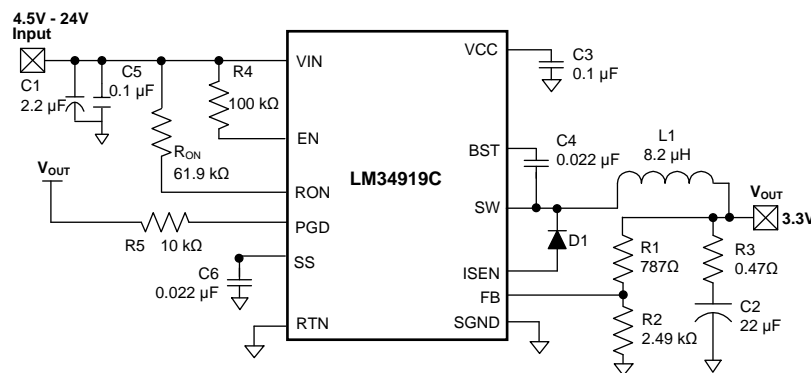
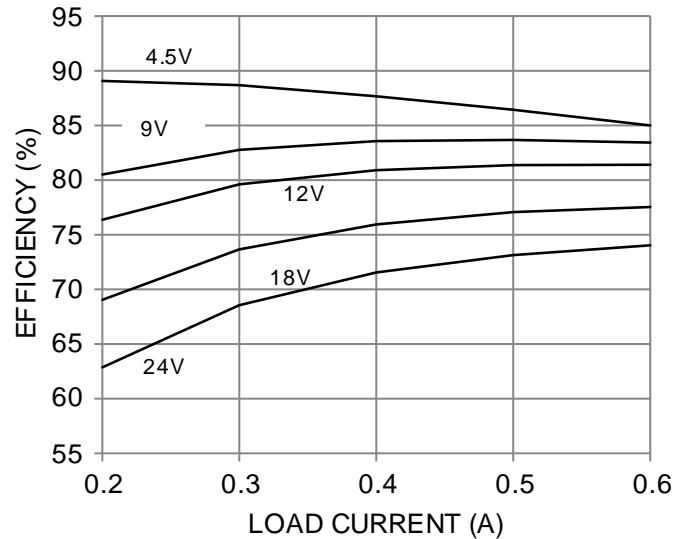
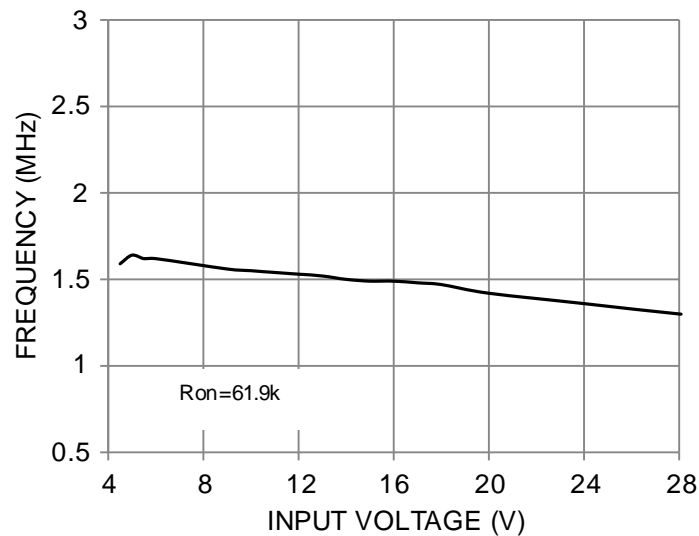
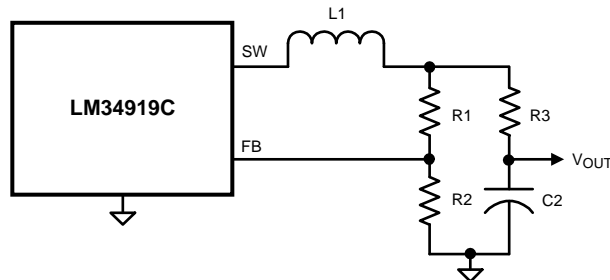

Figure 9. Example Circuit
Figure 10. Efficiency (1.5 MHz, $V_{OUT} = 3.3\text{ V}$)
Figure 11. Frequency vs. V_{IN} ($V_{OUT} = 3.3\text{ V}$)
Figure 14. Alternate Minimum Output Ripple Configuration
The final circuit is shown in Figure 9, and its performance is shown in Figure 10 and Figure 11.
c) Alternate minimum ripple configuration: The circuit in Figure 14 is the same as that in Figure 9, except the output voltage is taken from the junction of R3 and C2. The ripple at V_{OUT} is determined by the inductor ripple current and C2's characteristics. R3 slightly degrades the load regulation because the feedback resistors are not directly connected to V_{OUT} . This circuit may be suitable if the load current is fairly constant.